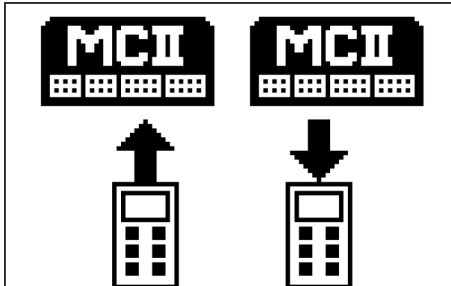

Fig. 129: 'Transfer parameters' menu
- ⇒ The 'Transfer parameters' menu (Fig. 129) is displayed.
⇒ The 'Copy set of parameter' menu (Fig. 129) is displayed.
⇒ The 'Change parameter' menu (Fig. 129) is displayed.